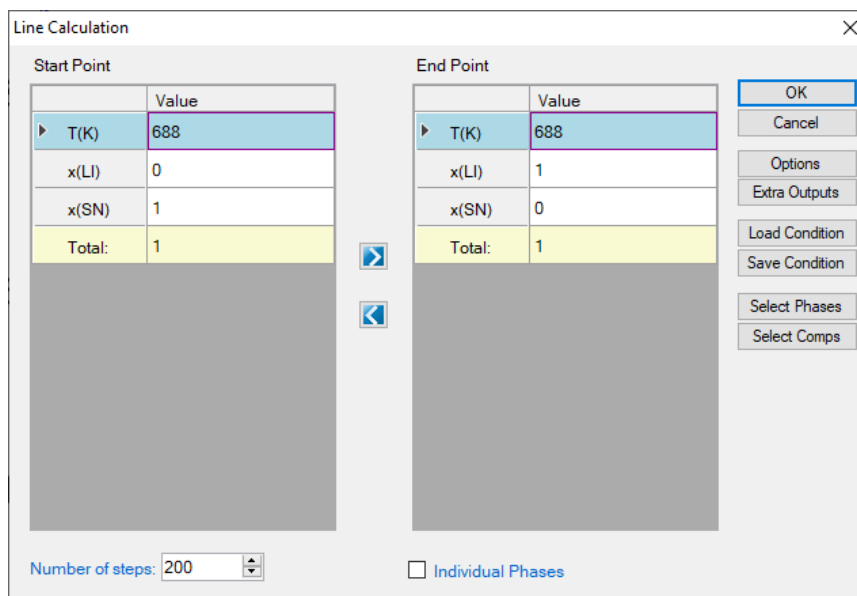
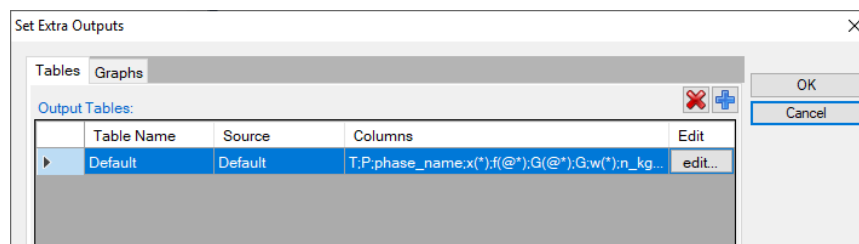
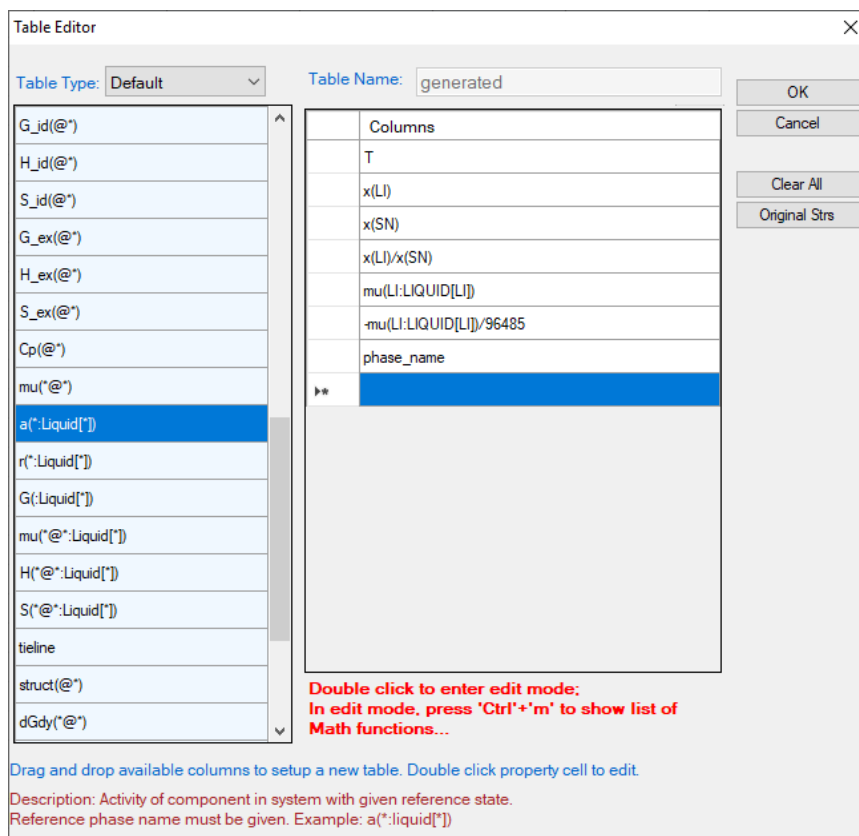

Figure 1.26.1 Line calculation conditions setting.
Figure 1.26.2 Interface to set Extra Output.
Figure 1.26.3 Define extra output table by drag properties from the left column to the right column or directly type in in the right column.
- A line calculation setting window will pop up as shown in Figure 1.26.1. The temperature is set as 688 K, as experimental data are available at 688 K for comparison. The composition range is from pure Sn, i.e. $x(\text{Sn}) = 1$, to pure Li, i.e. $x(\text{Li}) = 1$. The Number of steps is set to be 200.
- Set “Extra Outputs table”. In order to output the open-circle voltage value, some extra outputs are required. Click “Extra Outputs” in the interface shown in Figure 1.26.1, a new interface will appear as shown in Figure 1.26.2. Then click the blue “+” symbol to pop out the Table Editor as shown in Figure 1.26.3. From this Table Editor, one can select to output Extra properties which are not shown in the default table.
- In this example, we output $\mu(\text{Li:Liquid}[\text{Li}])$ as the chemical potential of Li in the system with reference to the liquid phase, i.e. $\mu_{\text{Li}} - \mu_{\text{Li}}^{\text{o,Liquid}}$. Then, we add another quantity $-\mu(\text{Li:Liquid}[\text{Li}])/96485$ which is equivalent to $E = -(\mu_{\text{Li}} - \mu_{\text{Li}}^{\text{o,Liquid}}) / F$ in this system. The quantity $x(\text{Li})/x(\text{Sn})$ represents the y in Li_ySn system. The settings are shown in Figure 1.26.3. After setting the table editor, click OK.
Tips: The properties can be dragged from the left column to the right column, or directly type in the right column. When click a property in the left column, the description of this property is shown as a description in the bottom of the interface. For example, in Figure 1.26.3, $a(*:\text{Liquid}[*])$; Description: Activity of
- When the interface goes back to Figure 1.26.1, click OK. Calculation starts.